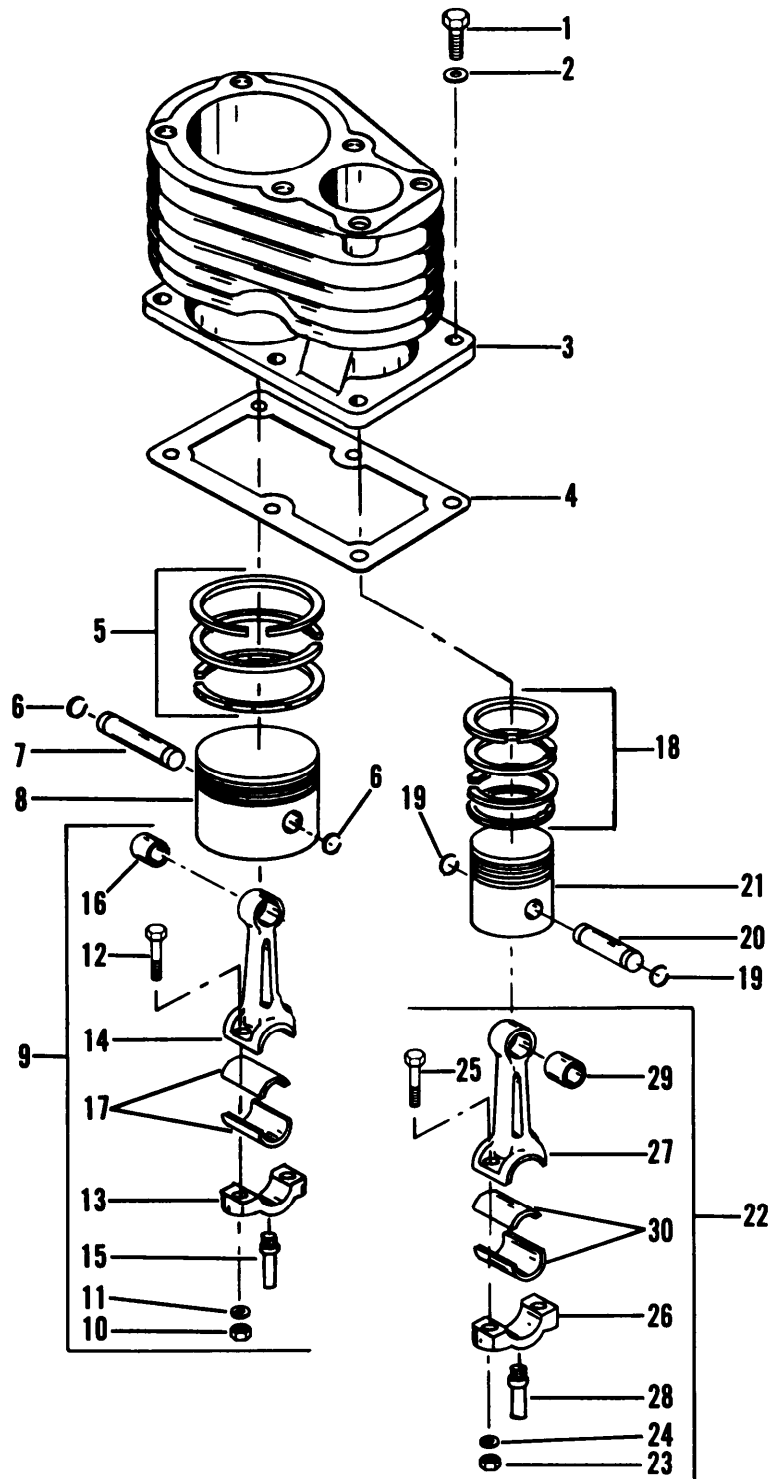

Figure 5-4. Cylinder, pistons, and connecting rods
- (1) Unscrew and remove six cylinder bolts (1, fig 5-4) and washers (2). Tap cylinder (3) lightly on mounting flange to break seal with compressor frame and carefully lift off cylinder (3). Remove gasket (4).
- (2) Use a piston ring expander and remove the three-ring first stage ring set (5). Remove the two piston pin retaining clips (6), slide out piston pin (7) and remove the first stage piston (8).
- (3) To remove first stage connecting rod assembly (9), rotate crankshaft to position where connecting rod cap nuts (10) can be reached. Remove the two nuts (10), lockwashers (11) and bolts (12). Carefully separate rod cap (13) from rod (14).
Legend for fig 5-4:
b. Cleaning. Clean all parts in solvent, P-D-680, or equivalent. Dry thoroughly. Clean any gasket material that may have stuck to cylinder (3, fig 5-4) flange or compressor frame by carefully scraping off the material.
(5) Examine all parts for nicks, crack, breaks, damage to threads, and distortion.
d. Repair/Replacement. Replace damaged piston rings (5, 18, fig 5-4) in sets only. Cylinder (3) bores may be honed to remove scratches within limits shown in table 5-2. Replace all damaged parts. Replace cylinder gasket (4) each time cylinder (3) is removed. Replace connecting rod bearings (17, 30) when worn beyond limits shown in table 5-2.